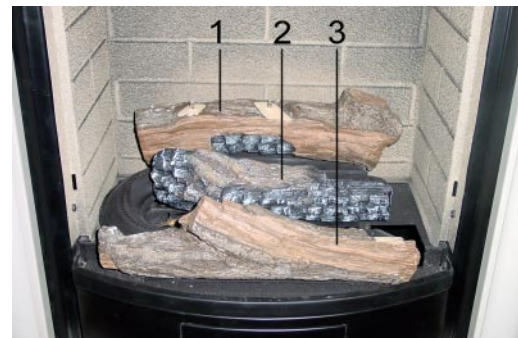

Figure 3
- Fasten decorating logs 1, 2, 3 onto the correspondent angle iron (Figure 3).